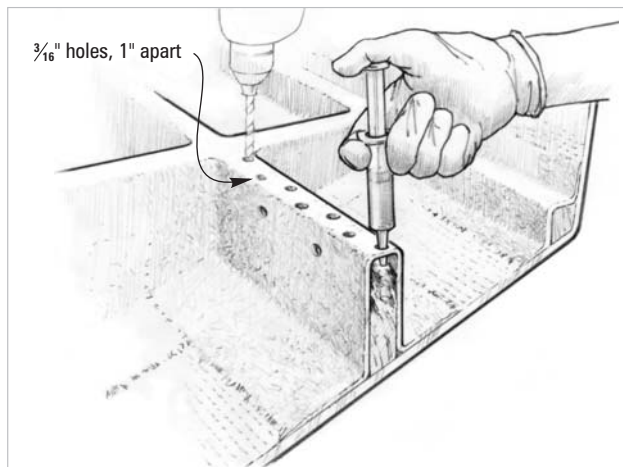

Figure 3-2 *Inject or pour resin/hardener mixture into the holes when the core is dry and while the core is warm.*
3. Inject or pour resin/hardener mixture into the holes while the core is warm (*Figure 3-2*). Epoxy, warmed by the core, will become thinner and penetrate more deeply into the exposed end grain. 206 Slow Hardener should penetrate more deeply than 205 Fast Hardener before it begins to gel.